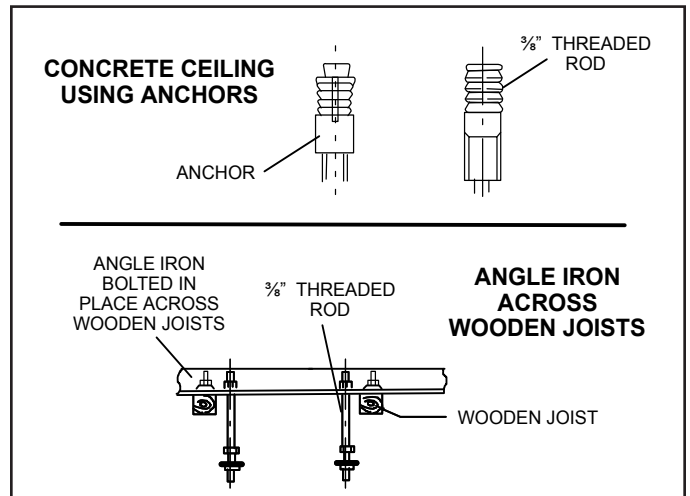

Figure 1. Suspending Methods
4. **Make sure that structure within ceiling void such as a sub-floor or crawl space is able to support the weight of the cassette unit. It may be necessary to add extra support.** If the structural support is constructed of concrete, install anchors to accept four  $\frac{3}{8}$ " threaded rods to suspend the cassette base. If the structural support includes wooden joists, use angle iron or a Unistrut channel fixed securely in place to accept the  $\frac{3}{8}$ " threaded rods. **NOTE - Threaded rod (requirement of Lennox warranty program) is the ONLY acceptable method of suspending the unit; do not use chains or straps.** See Figure 1.